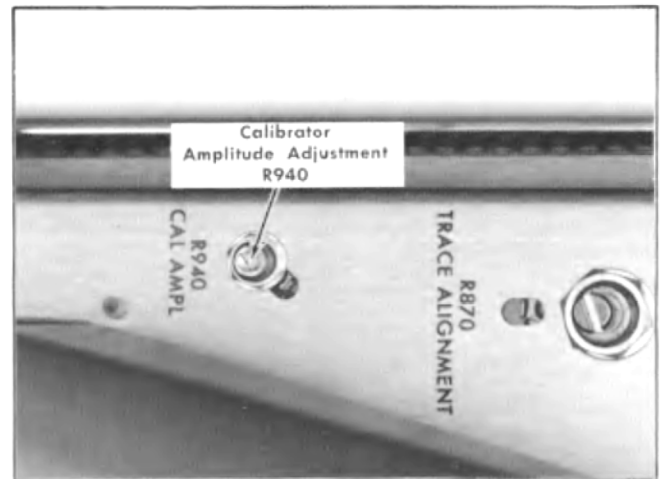

Fig.6-8. Location of Calibrator Amplitude adjustment (Calibrator and High Voltage chassis).
- e. Adjust—R940, Calibrator Amplitude adjustment, so the trace is at the center horizontal graticule line (Fig. 6-8).